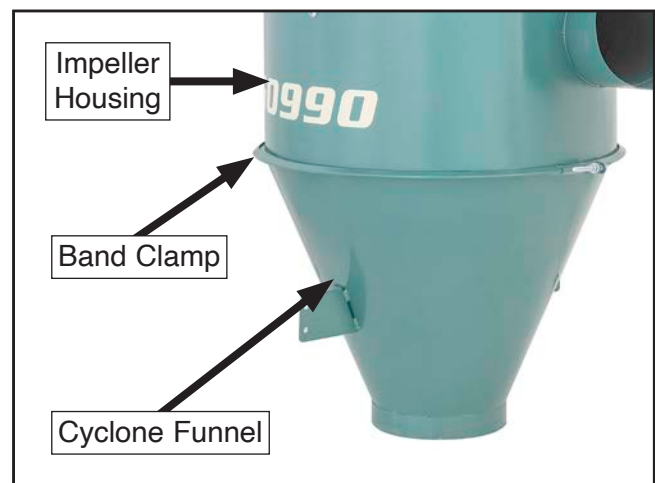

Figure 13. Attaching cyclone funnel to impeller housing.
4. Secure cyclone funnel to bottom of impeller housing with band clamp (see **Figure 13**).